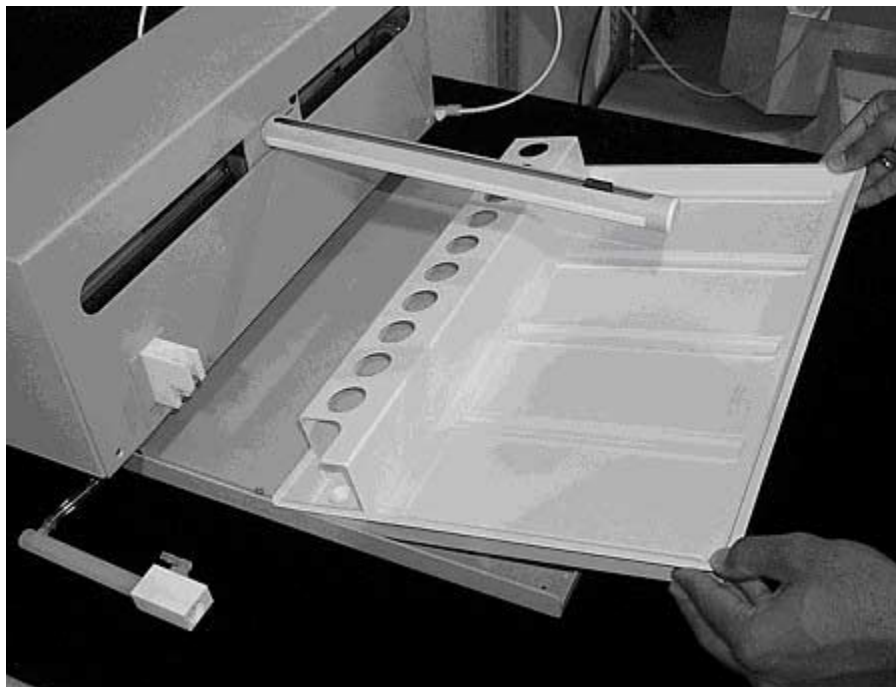
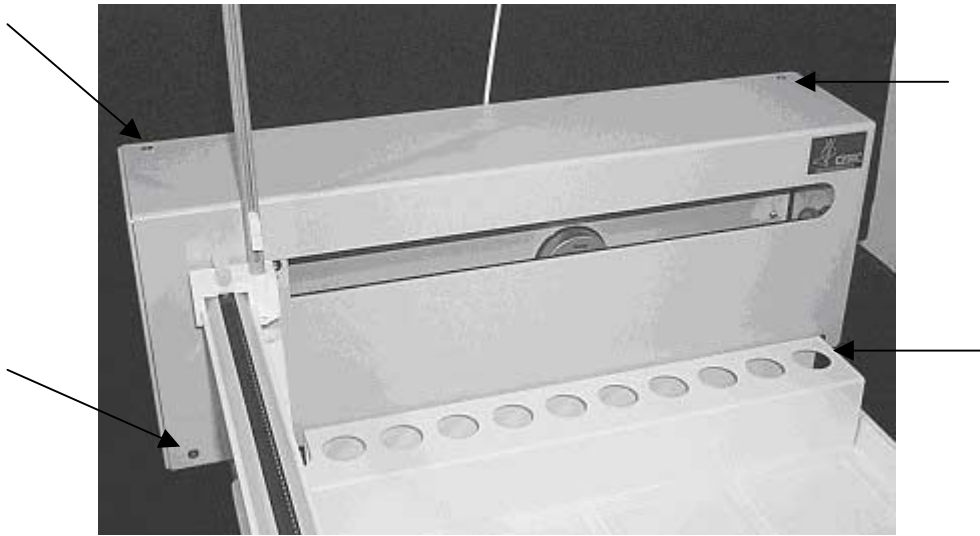

**Figure 1-4.** View of rinse station.
**Figure 1-5.** View of rinse station removed from the front cover.
3. After the Z-drive assembly is removed, then remove the rinse station. See Figure 1-4. Turn the rinse station  $\frac{1}{4}$  turn counter-clockwise while pulling up. Also, the tubing located at the bottom of rinse station will have to be removed or moved aside. See Figure 1-5.